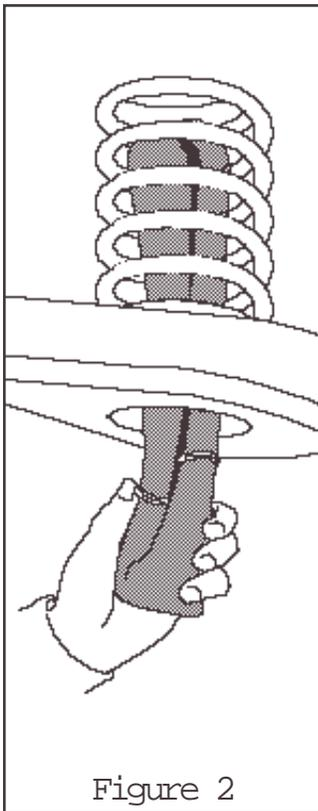

Figure 2
3. Insert formed air cylinder into lower coil spring seat opening with stem at the top (Figure 2).
If the vehicle has a rough and harsh ride it may be due to either too much pressure or not enough (fig. 2). Try different pressures to determine the best ride comfort.